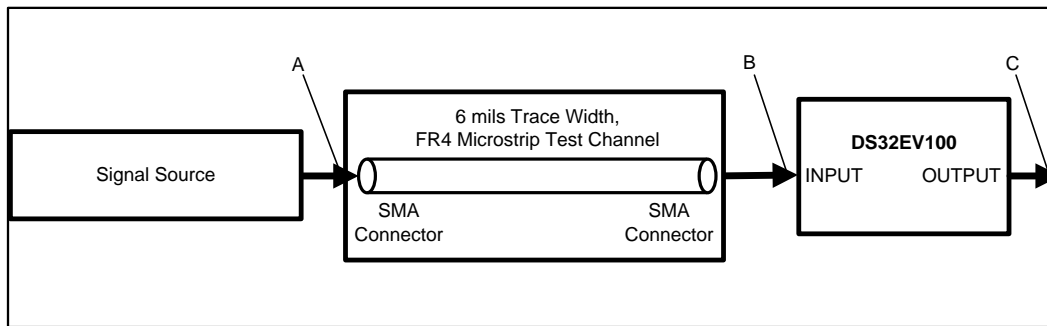

Figure 2. Test Setup Diagram
| V TX                       | Source Transmit Launch Signal Level (IN diff)              | AC-Coupled or DC-Coupled Requirement, Differential measurement at point A. (Figure 2)                             | 400                    |            | 1600                   | mV P-P |
| V INTRE                    | Input Threshold Voltage                                    | Differential measurement at point B. (Figure 2)   |                        | 120        |                        | mV P-P |
| V ICMDC                    | Input Common-Mode Voltage                                  | DC-Coupled RequirementDifferential measurement at point A. (Figure 2), (4)                         | V DDTX -0.8 |            | V DDTX -0.2 | V                 |
(4) Measured with clock-like {11111 00000} pattern.
(5) Specification is guaranteed by characterization at optimal boost setting and is not tested in production.
(6) Deterministic jitter is measured at the differential outputs (point C of Figure 2), minus the deterministic jitter before the test channel (point A of Figure 2). Random jitter is removed through the use of averaging or similar means.
(7) Random jitter contributed by the equalizer is defined as  $\sqrt{J_{OUT}^2 - J_{IN}^2}$ .  $J_{OUT}$  is the random jitter at equalizer outputs in psrms, see point C of Figure 2;  $J_{IN}$  is the random jitter at the input of the equalizer in psrms, see Figure 2.